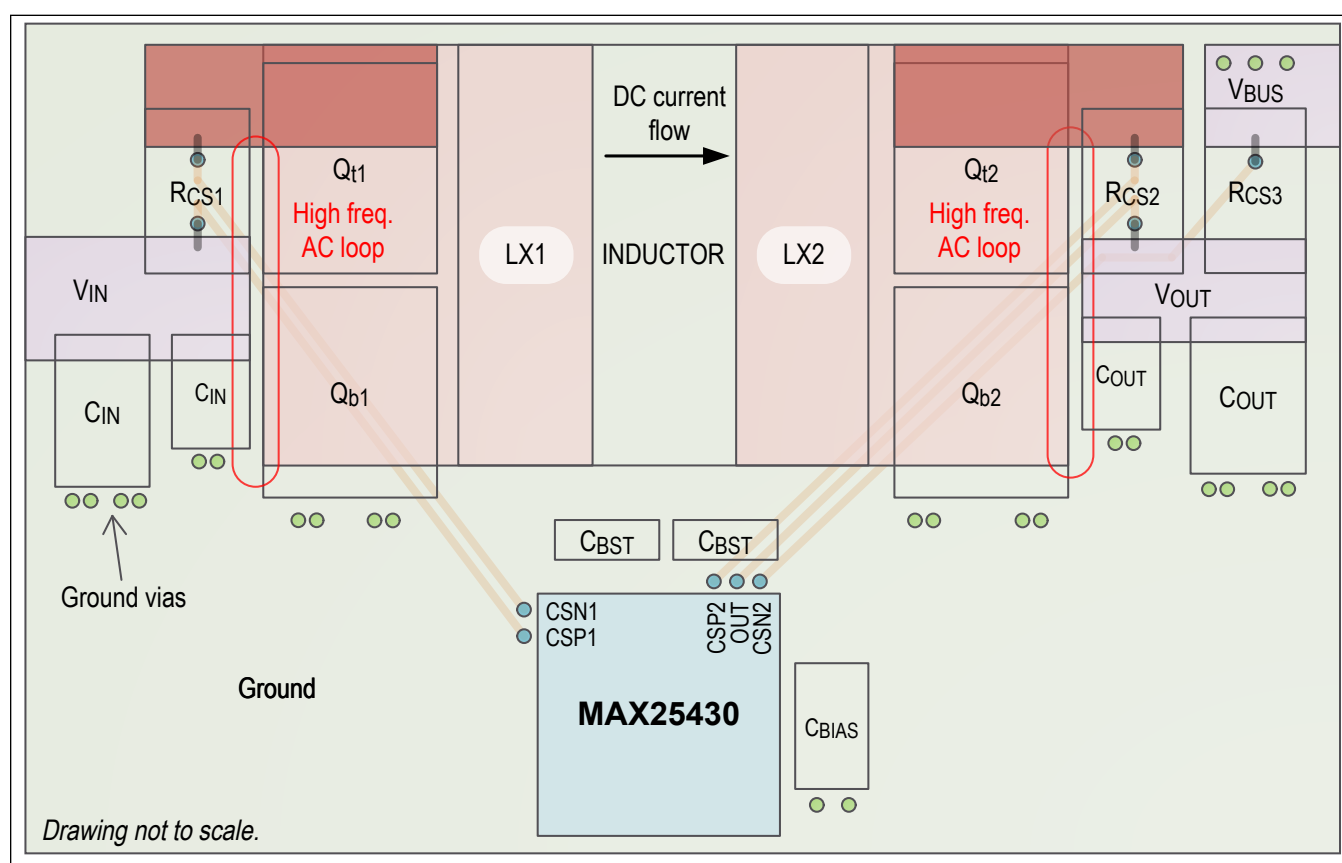

Figure 37. Recommended Buck-Boost PCB Layout
- 2) Place the input capacitor and the input current-sense resistor close to the input MOSFETs (Qt1 and Qb1) to make a small input current AC loop. High-frequency AC currents flow in this loop in buck mode Figure 37 and a small loop helps with the EMI and noise performance. Add high-frequency decoupling caps to improve the high-frequency performance.
- 3) Place the output capacitor and the output current-sense resistor close to the output MOSFETs (Qt2 and Qb2) to make a small output-current AC loop. High-frequency AC currents flow in this loop in boost mode Figure 37 and a small loop helps with the EMI and noise performance. Add high-frequency decoupling caps to improve the high-frequency performance.